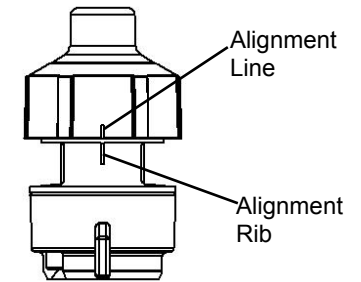

Fig. 1
9. Tighten the Body Cap until the Alignment Line on the side of the cap lines up with the raised marking rib on the side of the Main Body ( Fig. 1).